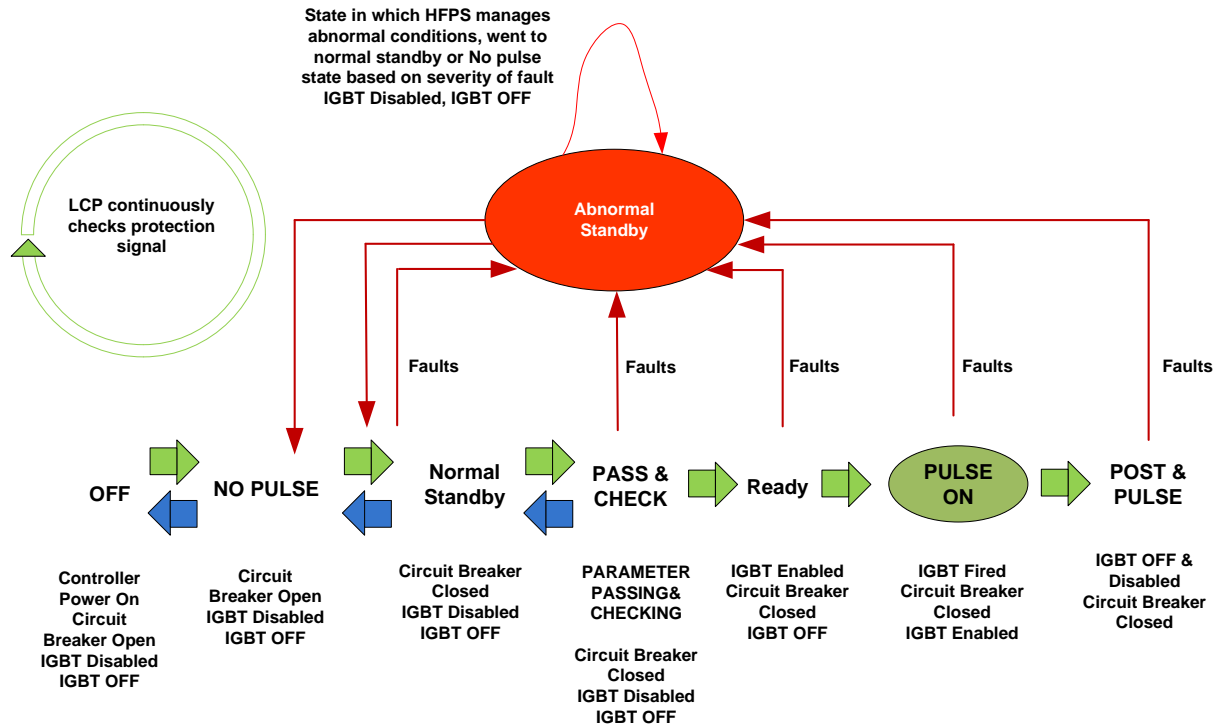

Figure-3: HFPS Unit State Transition
- h) HFPS local controller shall follow the state transition steps as depicted in Figure-3 of Annexure-I.
The HFPS unit shall follow the state transition steps as shown in Figure-3 below.